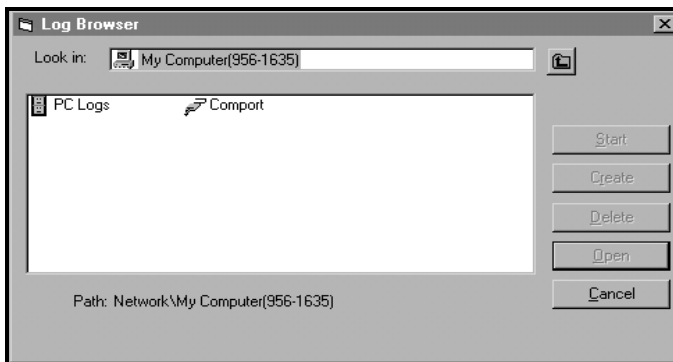

Figure 69: Communication Port Selection
- a. Double click on the *computer name* to move to the network level shown in Figure 69.